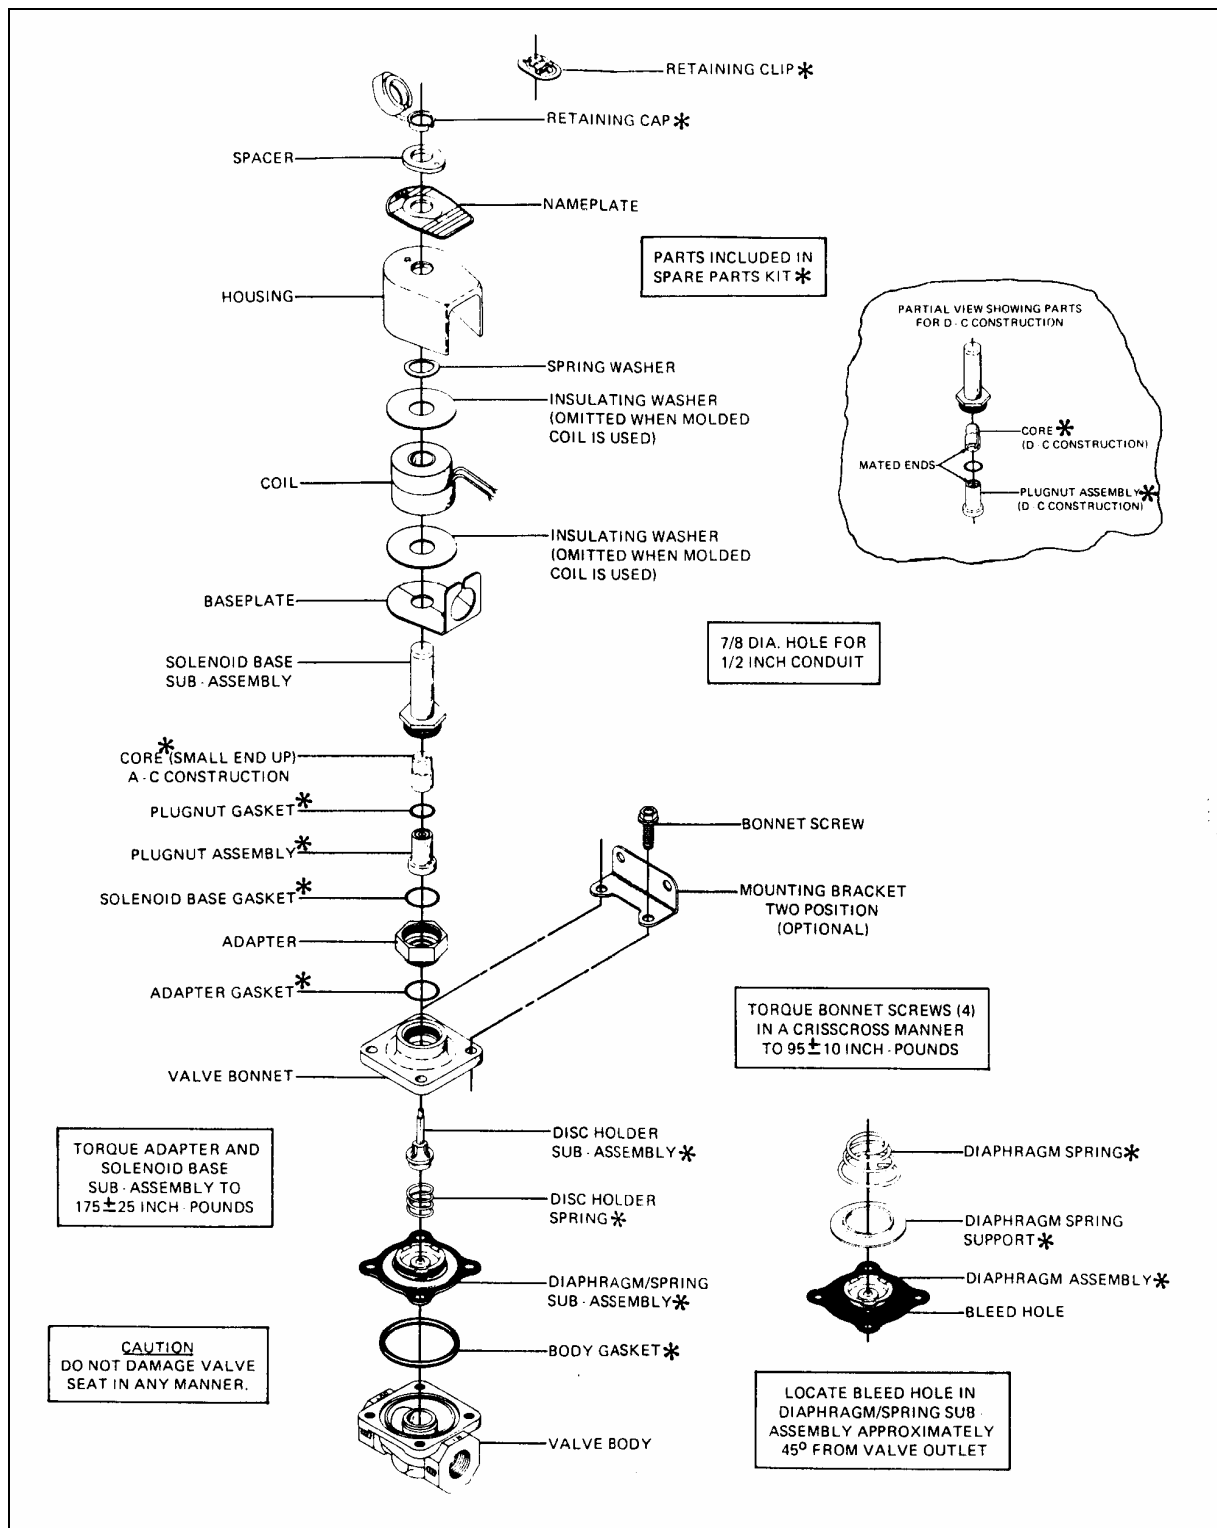

FIGURE 40: DRIVER'S WATER SOLENOID VALVE
3. Coil is now accessible for replacement. Reassemble by reversing sequence of disassembly. Refer to exploded view (Fig. 40) for identification and location of parts.
3. Disassemble valve in an orderly fashion paying careful attention to exploded view (Fig. 40) provided for identification of parts.
1. Reassemble in reverse order of disassembly, paying careful attention to exploded view provided for identification and placement of parts (Fig. 40).